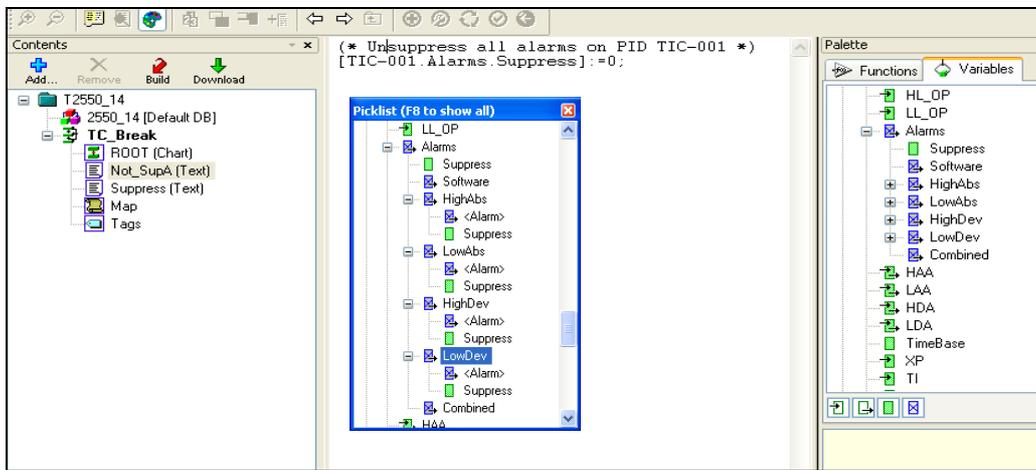

Figure 3.5a ST for unsuppressing all alarms in 'TIC-001'
With reference to section 2.6 and noting the Picklists showing the Alarm Suppress attributes, the Structured Text (ST) for each of the two SFC 'Actions', 'Not\_SupA' and 'Suppress' are shown in figures 3.5a and 3.5b respectively as below: